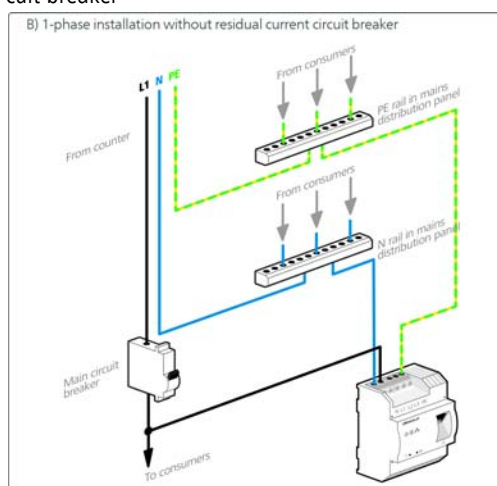

Fig. 4
- Single-phase connection: Neutral conductors and external conductors are connected to terminals N and L1 (see Fig. 4).